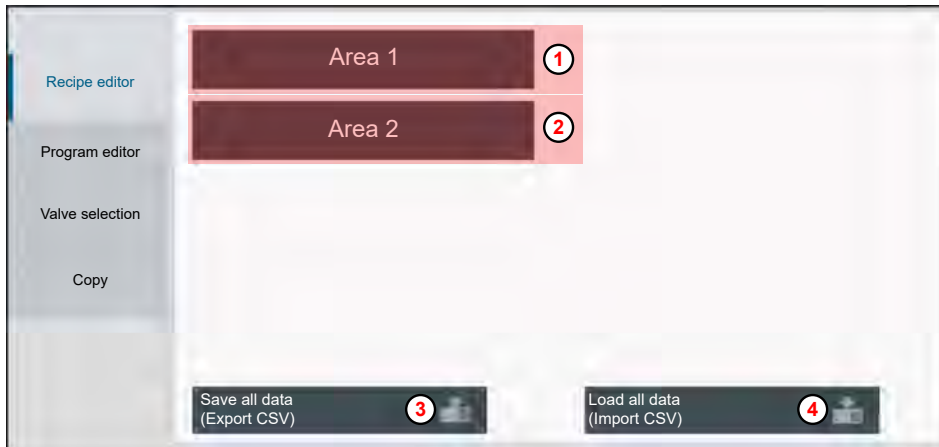

Fig. 38: [Recipe editor]
- Use the dropdown menu (2) to retrieve program steps.
- The screen shows a table with all sectional valves with the corresponding section steps that are located in the Area 1 (9) and Area 2 (10).
- If the Area 2 key (see Fig. 38, no. (2)) is selected, the pop-up window opens at the beginning of the second zone (10) (in this case A2/S4 row 5).
- Column [Name] (4), for example, shows Zone A1/S1.
To troubleshoot, press the [Reset] button on the door of the control system and export all recipes in the Recipe Editor itself (see Fig. 38) Export all recipes (Fig. 38, no. ③.)